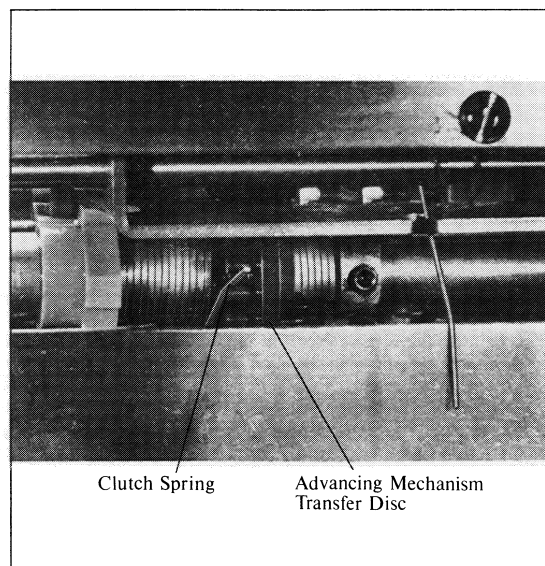

Figure 17. Adjusting Sales Number Advancing Mechanism
1. Sales number advancing mechanism, Figure 17, is tripped when printing occurs. The movement of the sale advance wheel starts immediately with rotation of the input shaft and completes transfer within $\frac{1}{4}$ of a revolution. If the sales number on the right-hand wheel does not align properly with the other wheel, it must be adjusted.